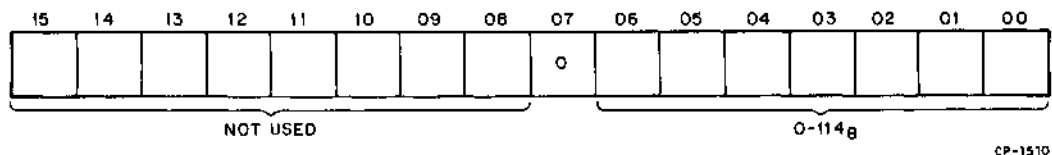

Figure 3-2 RXTA Format (RX11)
3.2.2.1 RXTA – RX Track Address (Figure 3-2) – This register is loaded to indicate on which of the 115₈ tracks a given function is to operate. It can be addressed only under the protocol of the function in progress (Paragraph 3.3). Bits 8 through 15 are unused and are ignored by the control.